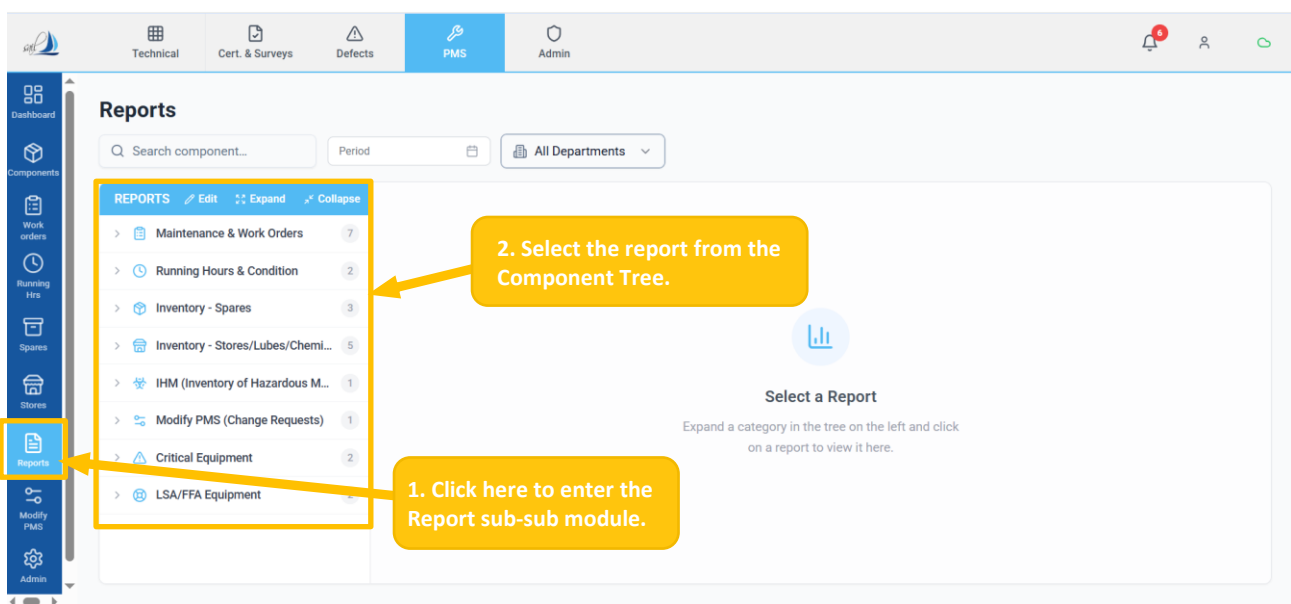

Figure 66
- Click the 'Report sub-sub-module to view reports. (Ref Figure 66)
- Click on a category to expand it and view the list of available reports. (Ref Figure 66)